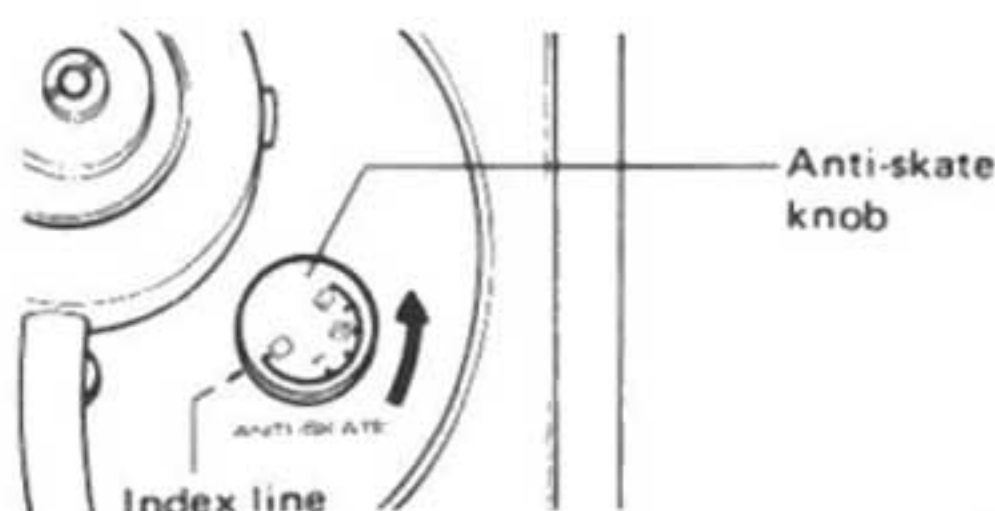

Fig. 9
2. Rotate the ANTI-SKATE knob and set the "0" to the index line (Fig. 9).